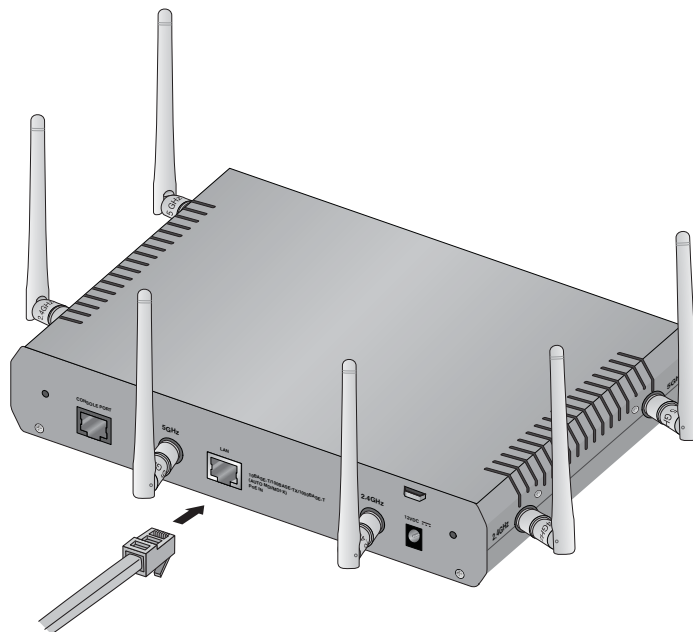

Figure 8. Attaching the Network Cable to the LAN Port
3. Attach a network cable to the LAN port. Refer to Figure 8 on page 33.